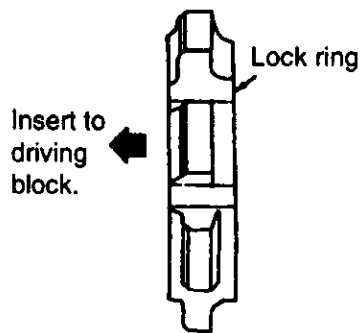

Fig.8
3. If the lock ring comes out, reassemble in the correct direction. (See Fig.8)